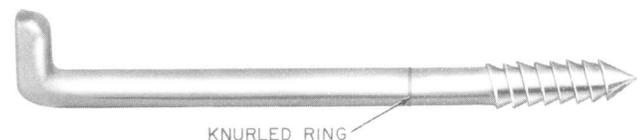

Fig. 1—Pole Step
2.01 Figure 1 illustrates a pole step.
around the shank at a distance of 5-1/2 inches from the inside of the head. See Fig. 1.) If after driving, the step is not in line with other steps or if the step slants upward or downward, no attempt shall be made to bring it in line by bending. If it is out of line to the extent it is unsightly or dangerous, it should be removed and redriven.